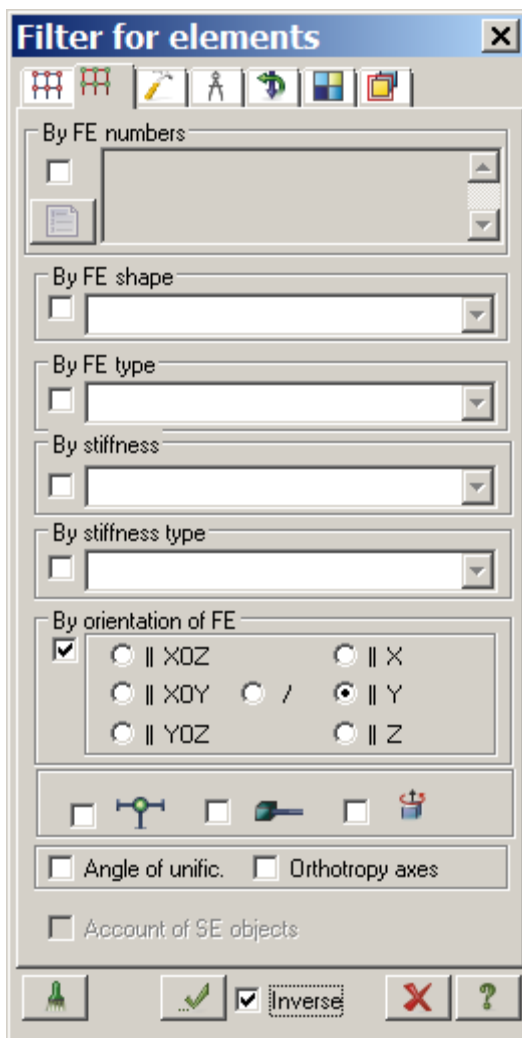

Figure 12.5 Filter for elements tab
- ⇒ In the **PolyFilter** dialog box, select the **Filter for elements** tab (the second tab) (see Fig.12.5).